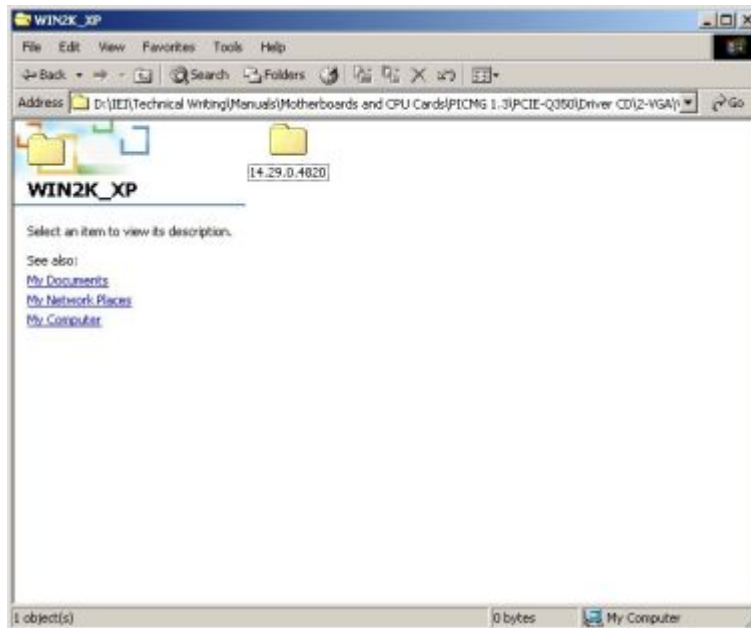

Figure 6-11: Intel® Driver Directory
Step 4: A new window appears. See **Figure 6-11**.
Step 5: Click the directory icon in **Figure 6-11**.